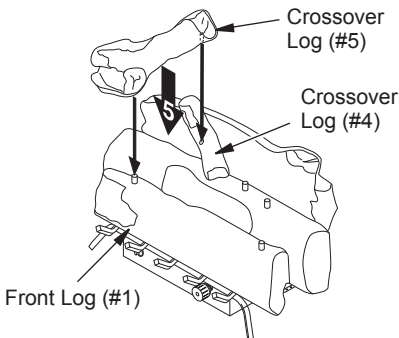

Figure 23 - Installing Crossover Log #5 (CCL3930PTB/NTB Shown)
5. For **CCL3924PTA/NTA** and **CCL3930PTB/NTB** Only: Locate pin and hole on the bottom of crossover log (#5). Slide the pin into the hole located in crossover log (#4). Slide the hole onto the pin on front log (#1). See Figure 23.